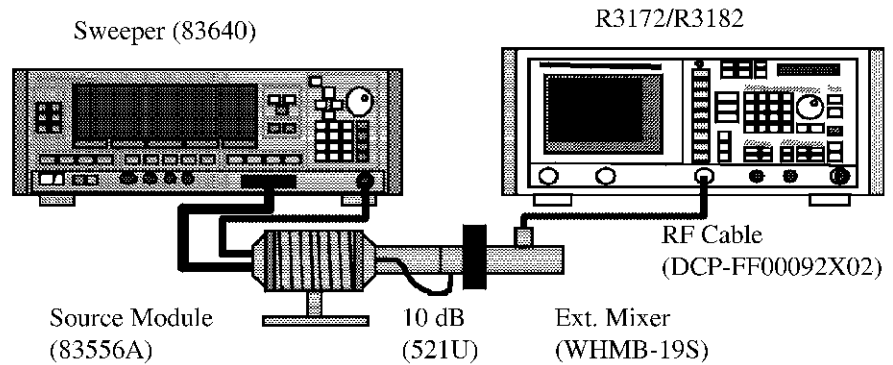

Figure 6-6 Setup of Frequency Response Test
15. Connect equipment as shown in Figure 6-6.